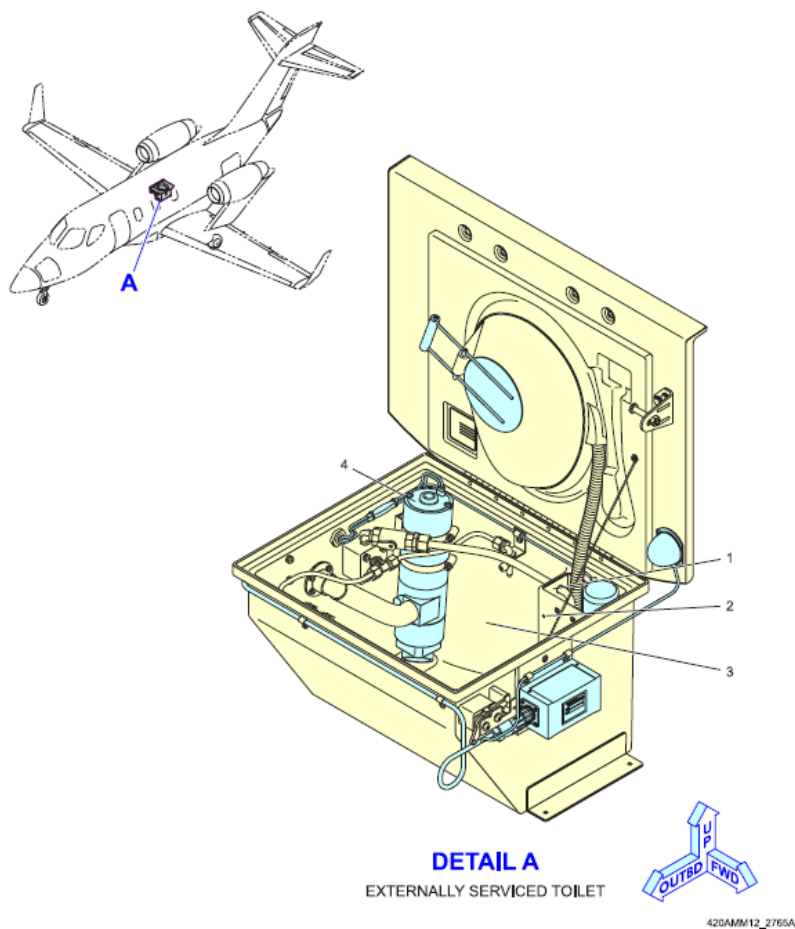

Figure 4-12. Externally Serviced Waste Water
7. Push and hold the MACERATOR PUMP switch (5) for a maximum of 15 seconds until the toilet waste tank is empty.
8. Wait 30 seconds for the waste fluid hose (2) to drain.
9. Pull the release lever to open the bowl assembly (1).
10. Use the lavatory service cart to pump flushing fluid into the toilet assembly until the flushing fluid flows from the weep hole (2). Reference the AMM for required fluids.
11. Wait 30 seconds for the flushing fluid hose (3) to drain.
12. Examine the waste tank (3) (Figure 4-12) and the flushing fluid tank (1). Make sure the waste tank (3) fluid is below the bottom of the macerator pump (4) and the flushing fluid tank (1) is full.
13. Close the bowl assembly (1).
14. Disconnect the flushing fluid hose (3) from the fill port (4) on the waste service panel.